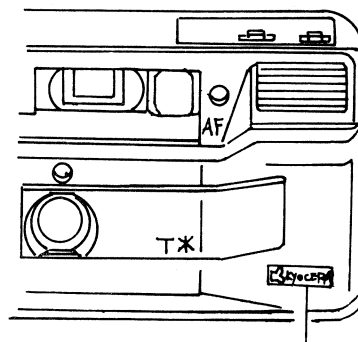

Fig 59
- 3) Remove the KYOCERA Name Plate (374311) on the right side of camera body as shown in (Fig 59).